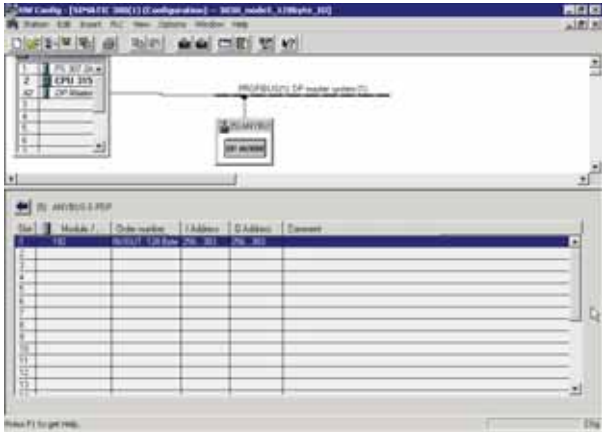

FIG. 149: INITIALIZATION COMPLETE
Step 15. When the download is complete the HW Config dialog box should look something like this. (See Fig. 149)